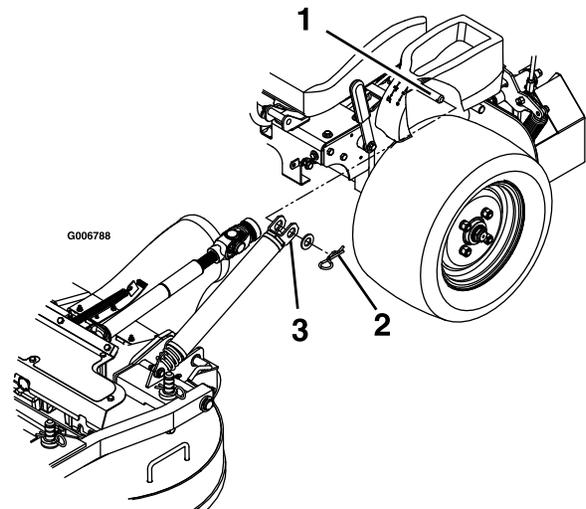

Figure 75
3. Remove hairpins and washers at the top of the deck lift assist spring on each side of the machine (Figure 75).
- Install the springs onto the spring anchor pins under the left and right consoles and secure it with a washer and hairpin (Figure 75).